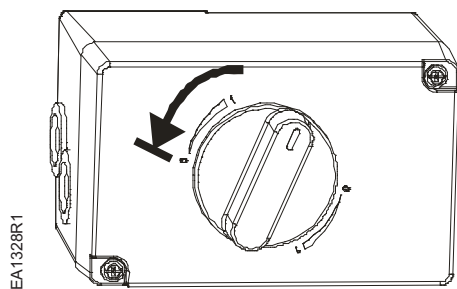

Figure 4.
- Turn the manual-positioning knob counterclockwise to "0". See Figure 4.